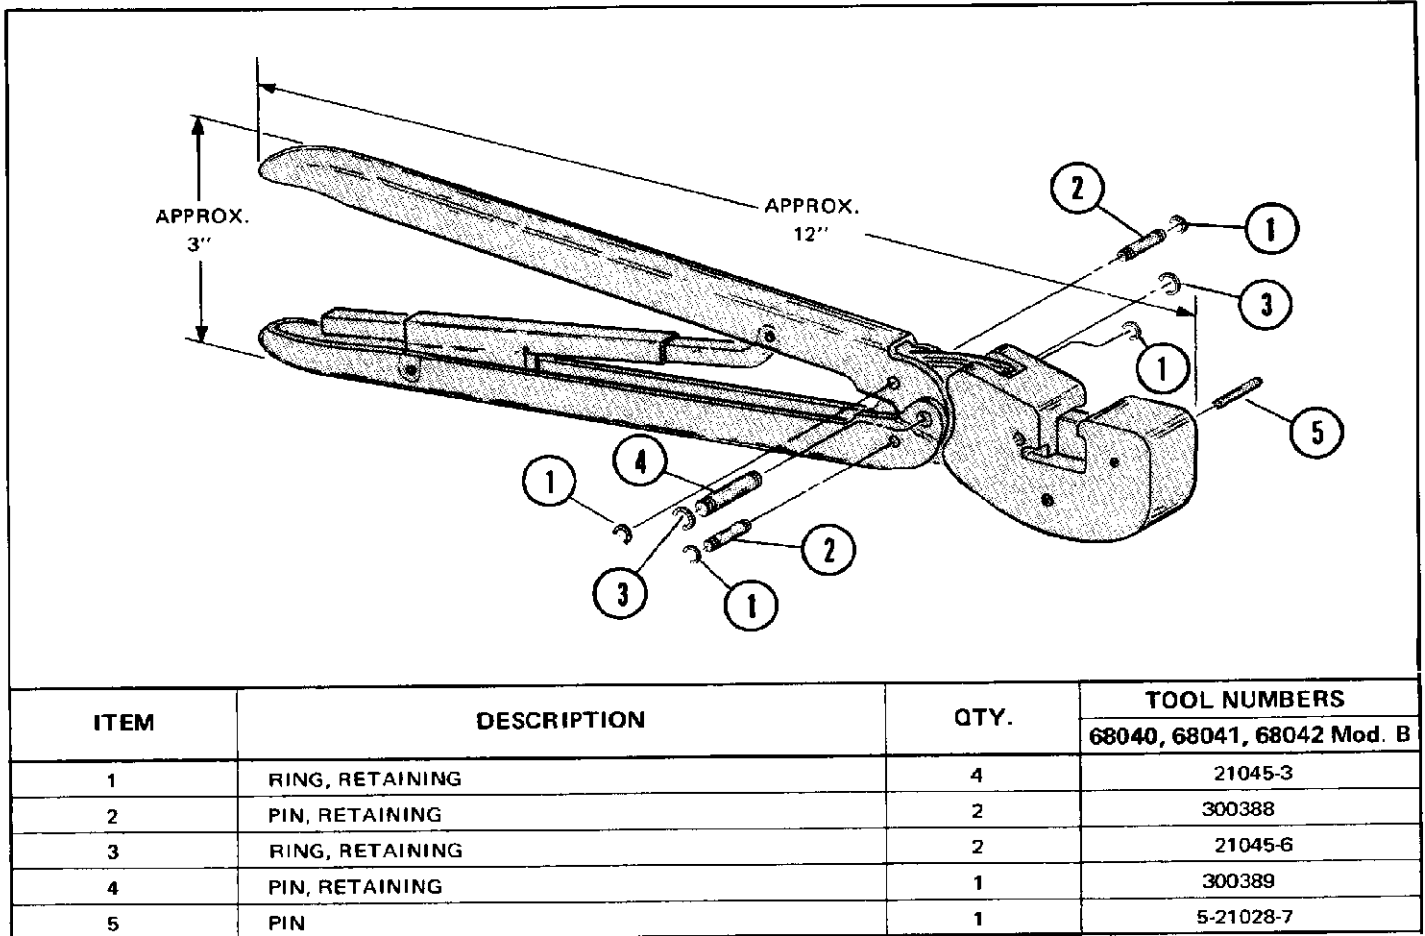

Figure 10
All AMP tools are inspected and calibrated before being shipped from the factory, however, since there is a possibility of tool damage in shipment, AMP recommends that new tools be inspected in accordance with Section 3 when received in your plant. Due to the precision design, it is important that no parts of these tools be interchanged except those replacement parts listed in Figure 10.
- Visually inspect the tool for missing pins or retaining rings. If parts are missing or defective, refer to Figure 10 for customer replaceable parts.
It may be advantageous to stock certain replaceable parts to prevent loss of production time. Figure 10 lists the customer replaceable parts that can be purchased from AMP Incorporated, Harrisburg, Pa., or a wholly owned subsidiary of AMP Incorporated.